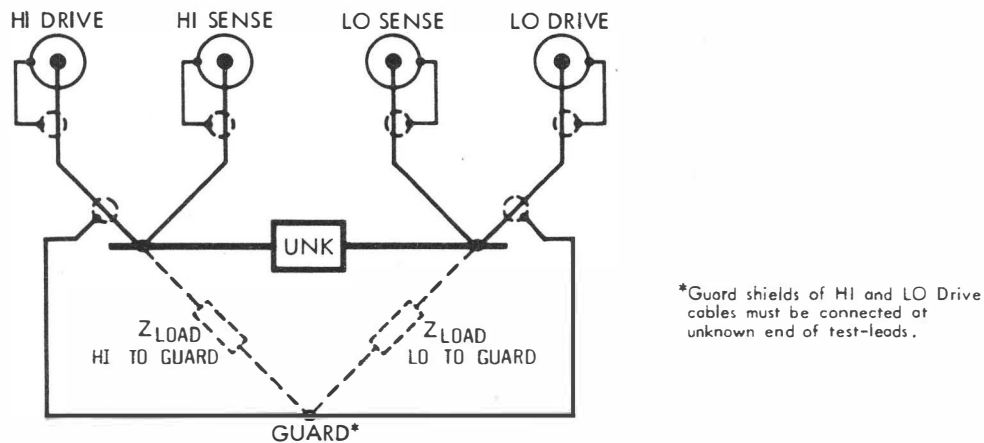

Figure 2-8. Connection to Unknown
Models 2150/2160 make four-terminal measurements with passive guarding. They provide separate shielded connection cables for current drive and voltage sense to the high and low side of the unknown. These cables are fully shielded to minimize the effects of stray capacitance. They are labeled HI DRIVE, HI SENSE, LO DRIVE, and LO SENSE. The shields around the HIGH and LOW DRIVE cables are connected to the GUARD point (see Figure 2-8). The total load impedance (Z) to the guard point must be greater than or equal to the impedance of the device under test. Drive and sense leads for both HIGH and LOW terminals must make separate connections to the unknown.
For accurate measurements of low impedance unknowns, separate drive and sense connections are necessary to prevent lead resistance from becoming a part of the measured unknown. Both drive and sense connections can be connected together to a single lead of the unknown (a 2-terminal measurement) if the lead is a small part of the unknown impedance ($R_{lead} < Z_{unk}/1000$ for $<0.1\%$ error). With proper connections as shown in Figure 2-8, cable length of 5 feet causes no loss of accuracy. Different cable lengths or special test conditions may result in accuracy loss.